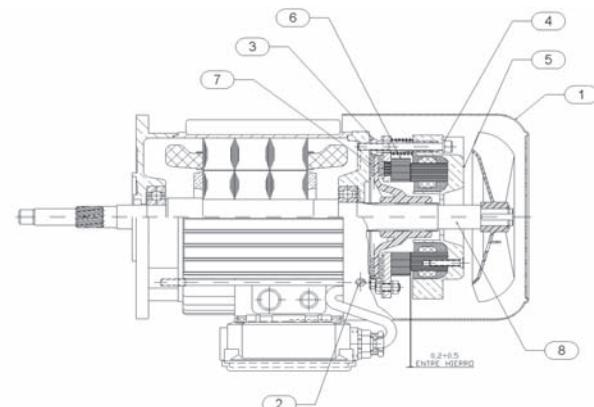

Figure 12, Two-speed Brake Motor, ABK201
- The procedure for resetting the air gap, figure 12, is as follows:
- Remove the brake's protective cover (1) and the fan. To do this, remove the bolts (2), then the brake will be visible.
- The brake air gap is the distance between the magnet (5) and the free yoke (6) when the brake is not operating. The bolts (4) must be tightened. Placing a gauge of thickness 0.2 mm into the air gap, move the magnet (5) to the free yoke (6).
- Use the gauge to check that the air gap is the same on the entire brake circumference. Then check that the brake is properly locked out by means of the bolts (4).
- Complete the operation by assembling and locking in the protective casing (1) with the bolts (2).
- It is advisable to replace the brake disc when its thickness falls below 5 mm. For its replacement, the procedure is as follows, figure 12:
- Remove the protective cover for the brake (1) and the fan, by removing the bolts (2). The brake is now visible.
- Unscrew and remove the nuts (4).
- Carefully remove the magnet (5) and the free yoke (6), to prevent damage to the cable connecting it to the motor.
- Remove the brake disc (7). Clean and de-lubricate the friction surfaces and the toothed area of the motor shaft (8).
- Check that the new disc (7) does not contain any impurities on the toothed cube, and then attach it to the motor shaft (8). The correct assembly position is shown in figure 12.
- Check that the part has no difficulties with axial movements. Insert the free yoke (6) and the magnet (5).
- Screw the bolts (4) and adjust the air gap as described above.